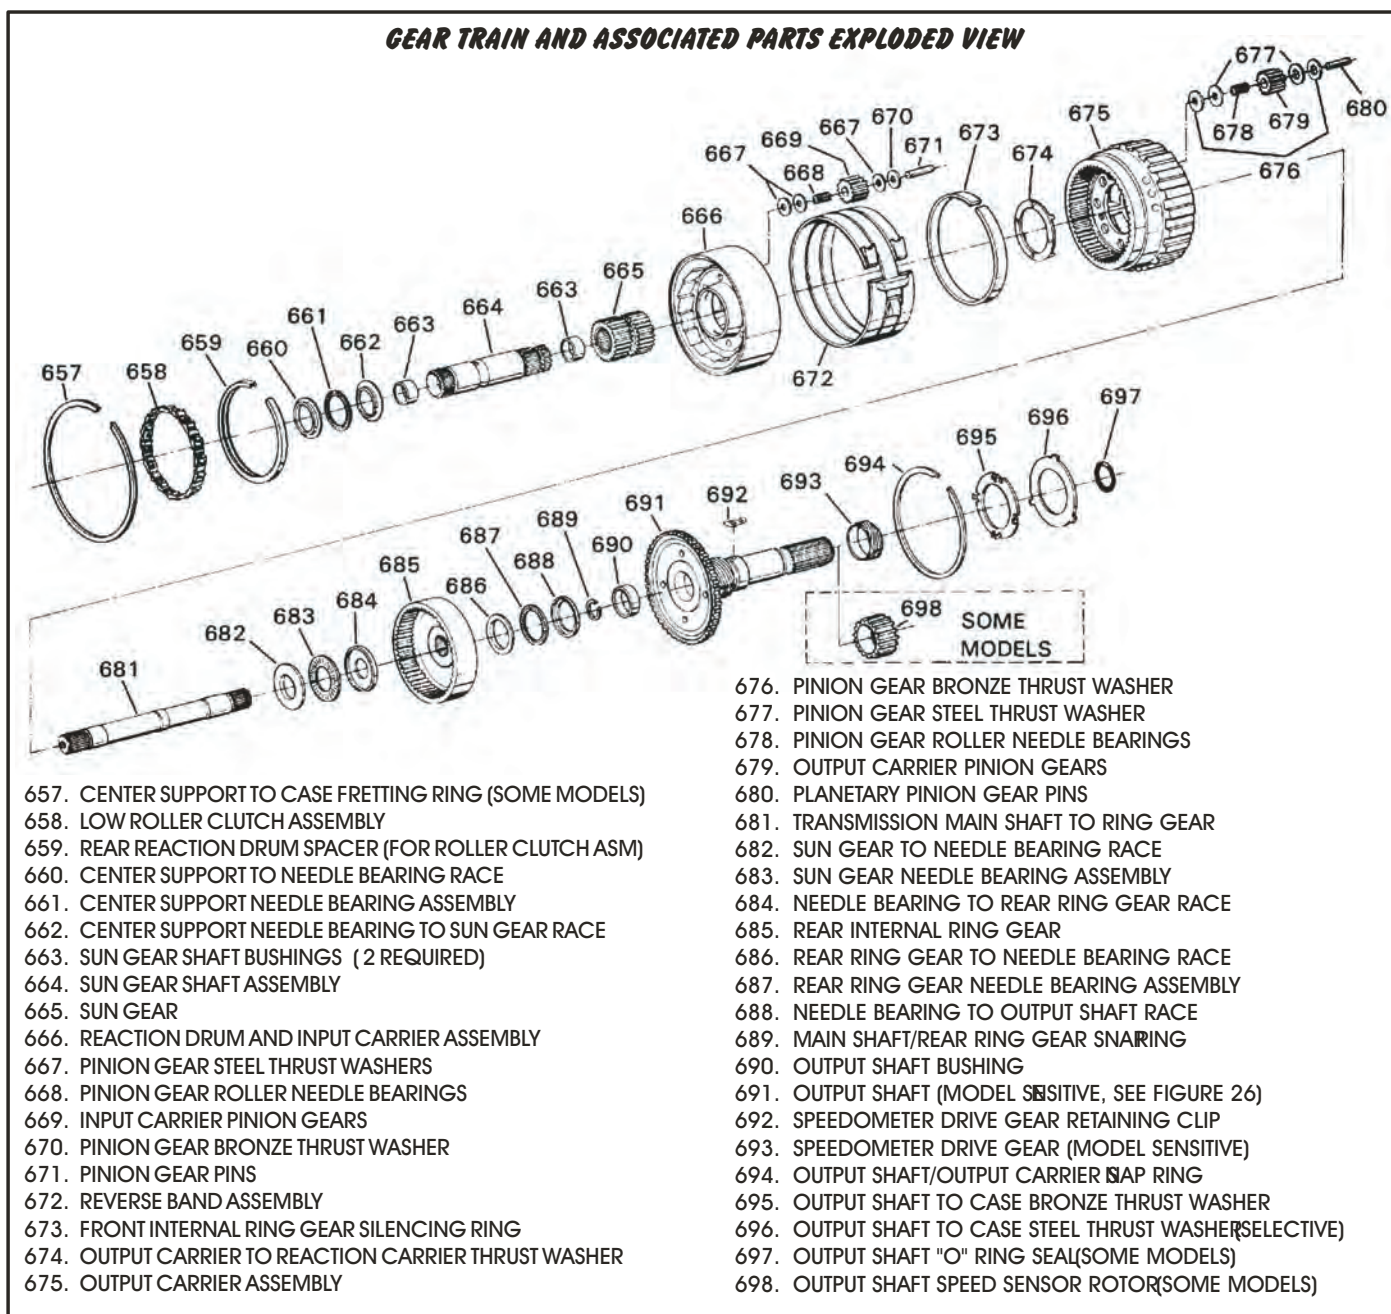

Figure 56
1. Disassemble the gear train parts from the bench fixture using Figure 56 as a guide.
3. Check all parts and components thoroughly for any damage and/or wear patterns. This includes all bushings, thrust washers and needle bearings and races. (Refer to Figure 56).